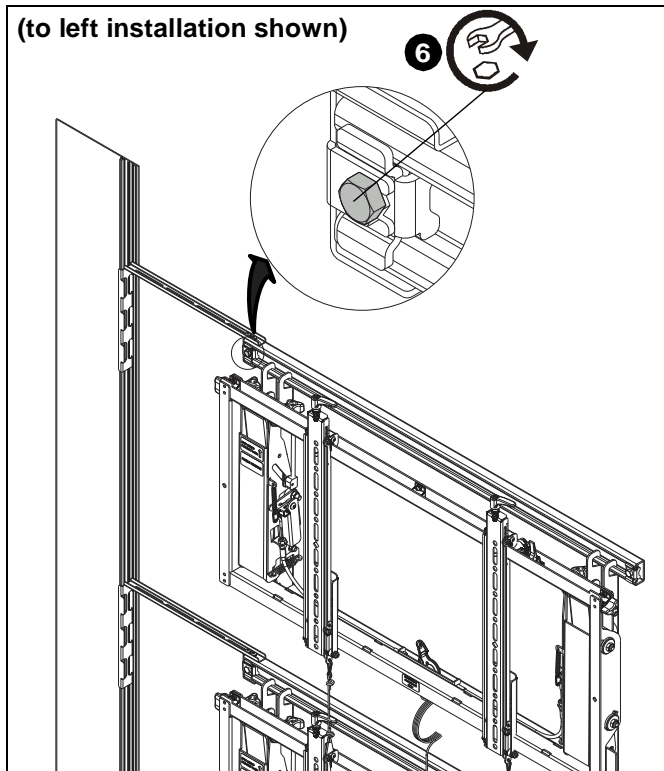

Figure 4
- Tighten stop bolt screws to secure adapter brackets (C) to ConnexSys™ brackets. (See Figure 4)